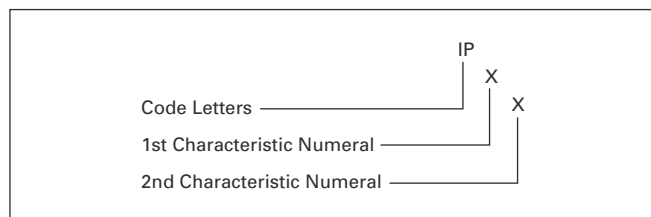

Figure 28. IP Code
As **Figure 28** indicates, Ingress Protection (IP) ratings include the code letters IP and two numbers, each of which explains the degree of protection the application offers. The first number represents the degree of protection against solid foreign objects; the second number represents the degree of protection against water.